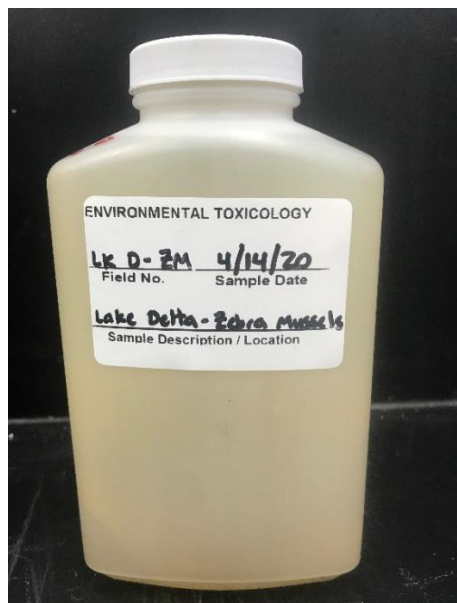

Figure 1 Example of labelled sample bottle.
7. Label the sample bottle(s) externally. Prepare labels prior to sampling so that you don't have to write on wet paper (Figure 1).